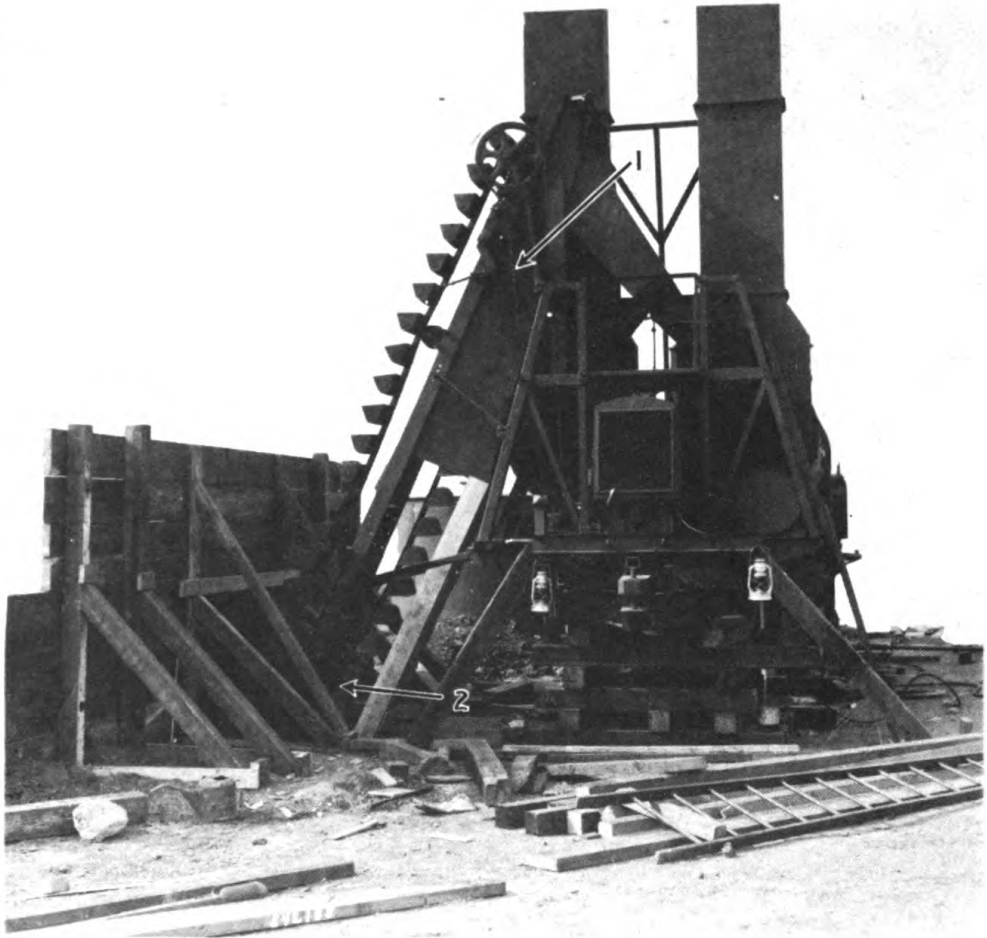
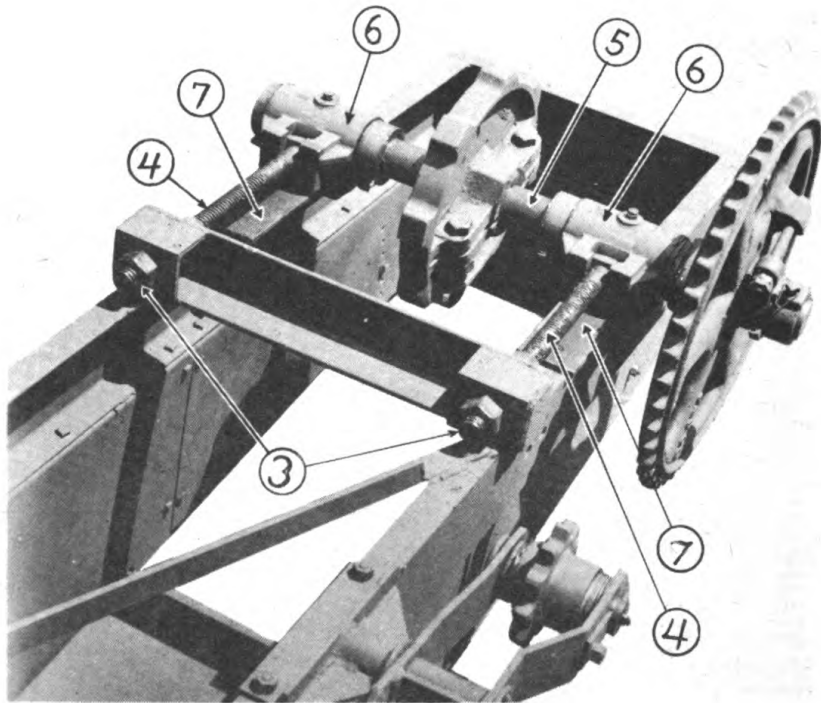

FIGURE 113
FIGURE 114
1. Break the cold elevator drive chain (1) Fig. 113.
2. Break the bucket line (2) near foot shaft of cold elevator.
4. Remove lock nuts (3) Fig. 114 from the end of both adjusting bolts (4) and raise the head shaft (5) until bearings (6) are free of bearing guide plates (7).